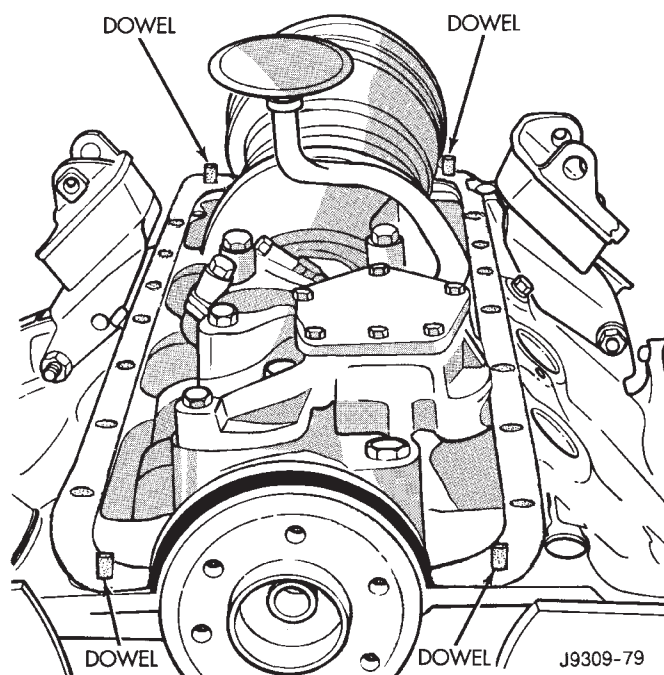

Fig. 34 Position of Dowels in Cylinder Block
- (5) Install the dowels in the cylinder block (Fig. 34).